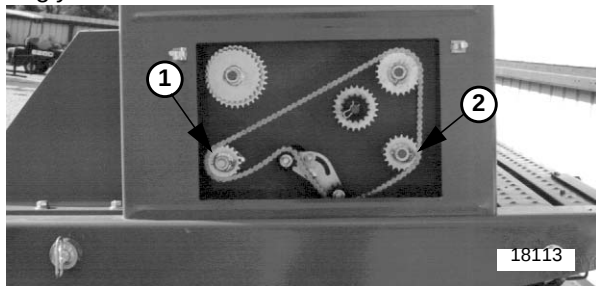

Figure 3-2
3. If necessary, switch drive (1) and driven (2) sprockets under end panel. Refer to Figure 3-2. Loosen idler arm and remove chain. Remove lynch pins on drive and driven sprockets and rearrange sprockets accordingly.